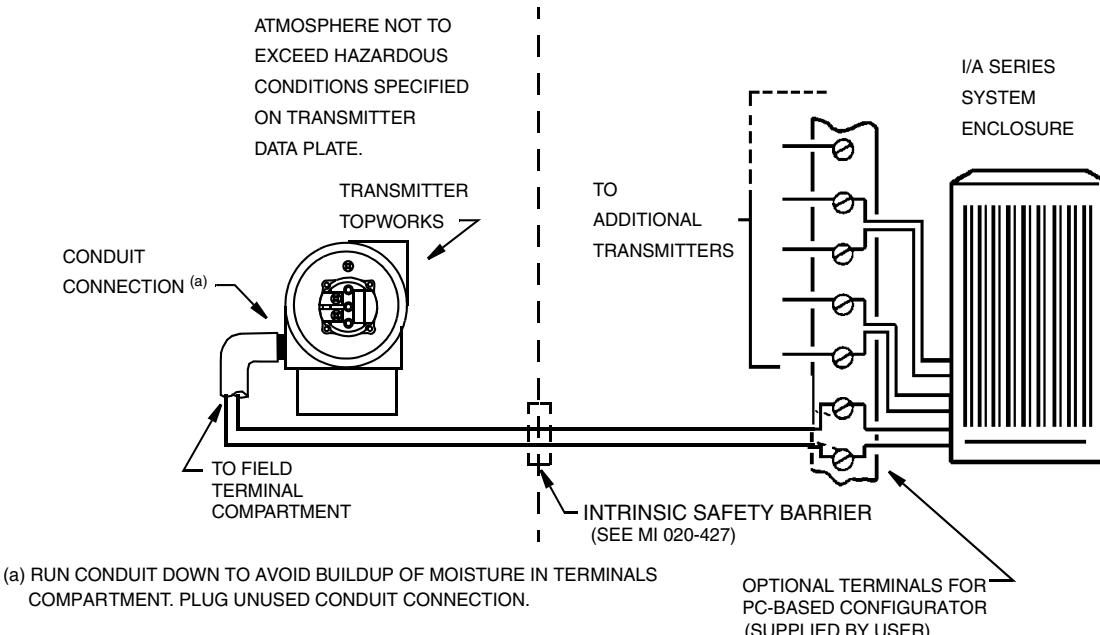

Figure 41. Typical Transmitter Wiring to an I/A Series System
2. Run signal wires (0.50 mm^2 or 20 AWG, typical) through one of the transmitter conduit connections as shown in Figure 41. Use twisted pair to protect the digital output and/or remote communications from electrical noise. Screened (shielded) cable may be required in some locations.